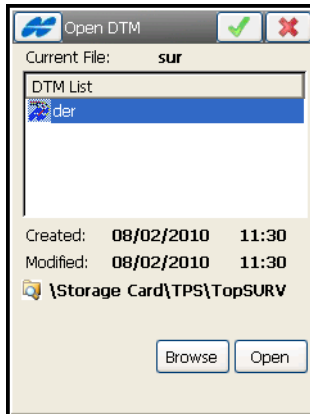

Figure 13-40. Open DTM
-  – opens the **Open DTM** screen to select the desired file (Figure 13-40 on page 13-37).
On the *Open DTM* screen (Figure 13-40), select a surface file to open.